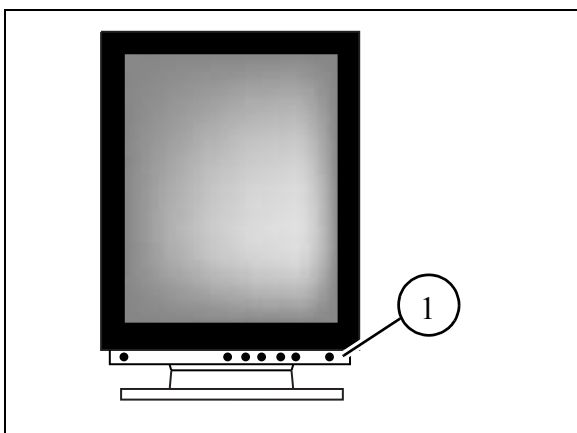

Fig. 3 21" High resolution monitor
- Plastic parts of the High resolution Monitor (CRT) (1/Fig. 3):
(1/ Fig. 3):